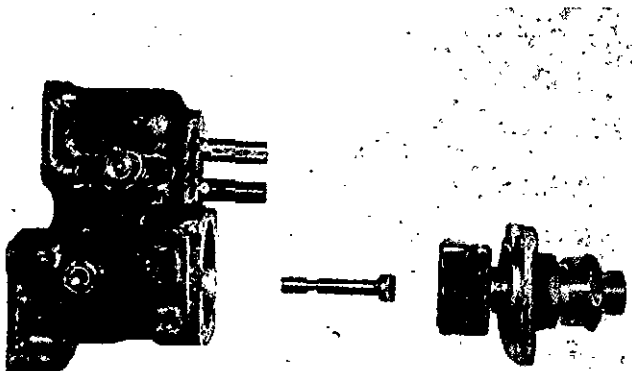

Fig. 4-19, (F555). Install the auxiliary governor plunger.
6. Install the converter governor plunger, Fig. 4-19.